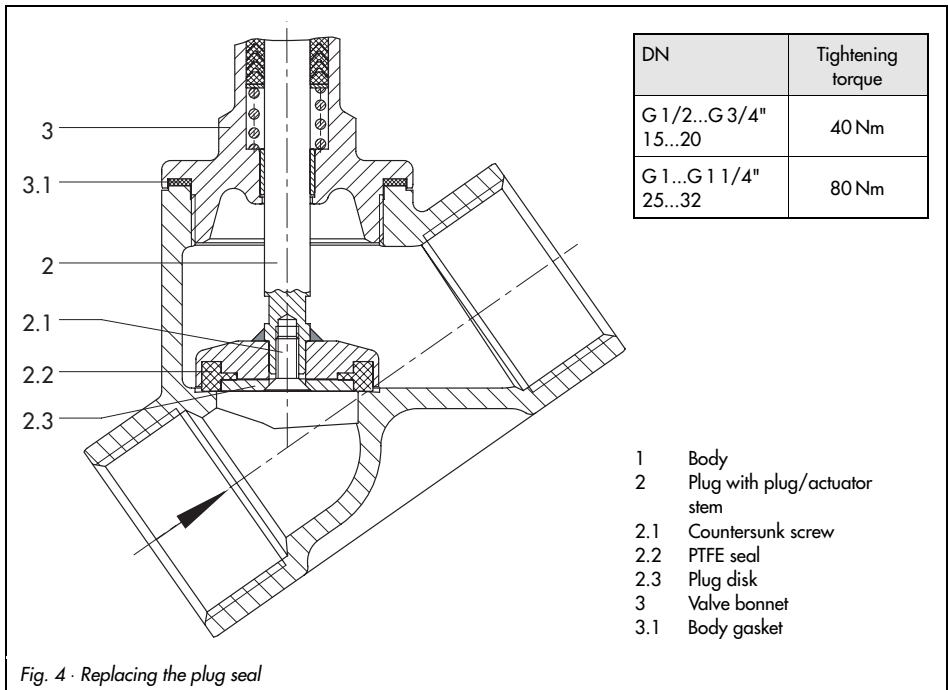

Fig. 4 - Replacing the plug seal
- The tightening torques required for the valve bonnet are listed in the table, Fig. 4.
Refer to the table in Fig. 4 for tightening torque for valve bonnet.